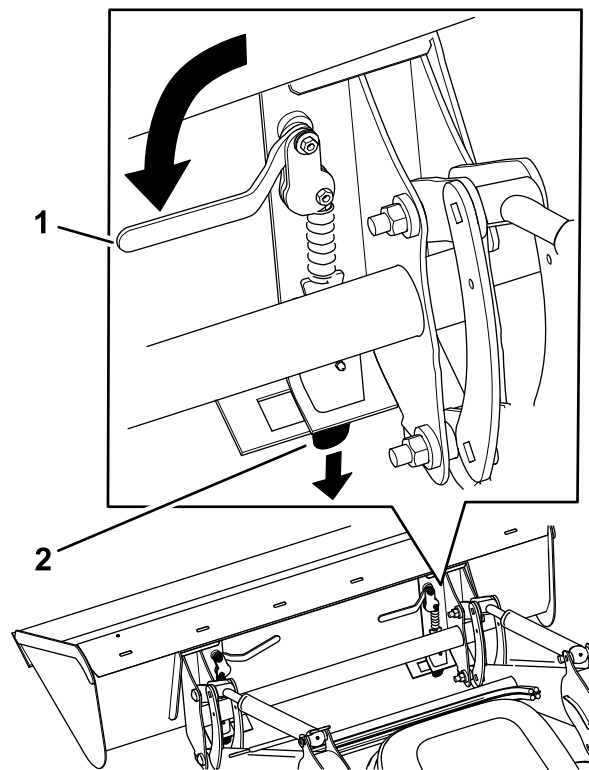

Figure 56
8. Rotate the quick-attach levers inward, ensuring that the quick-attach pins are fully seated in through the mount plate (Figure 56).